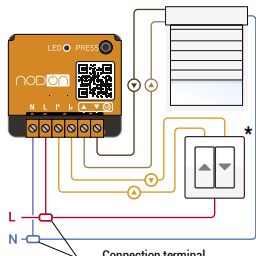

Figure 1
- Wire the Relay Switch according to the diagram figure 1.